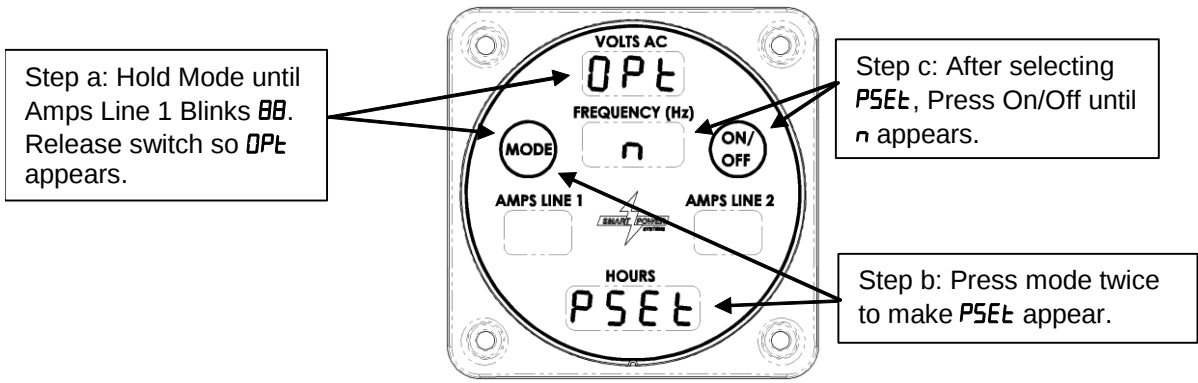

Figure 34 – Disabling Pump Set Option
- Press and hold the Mode button until the Amps Line 1 field blinks with **BB** (more than 10 seconds). Release the button while the Amps Line 1 field is blinking to make **DPt** appear. Reference Figure 34.